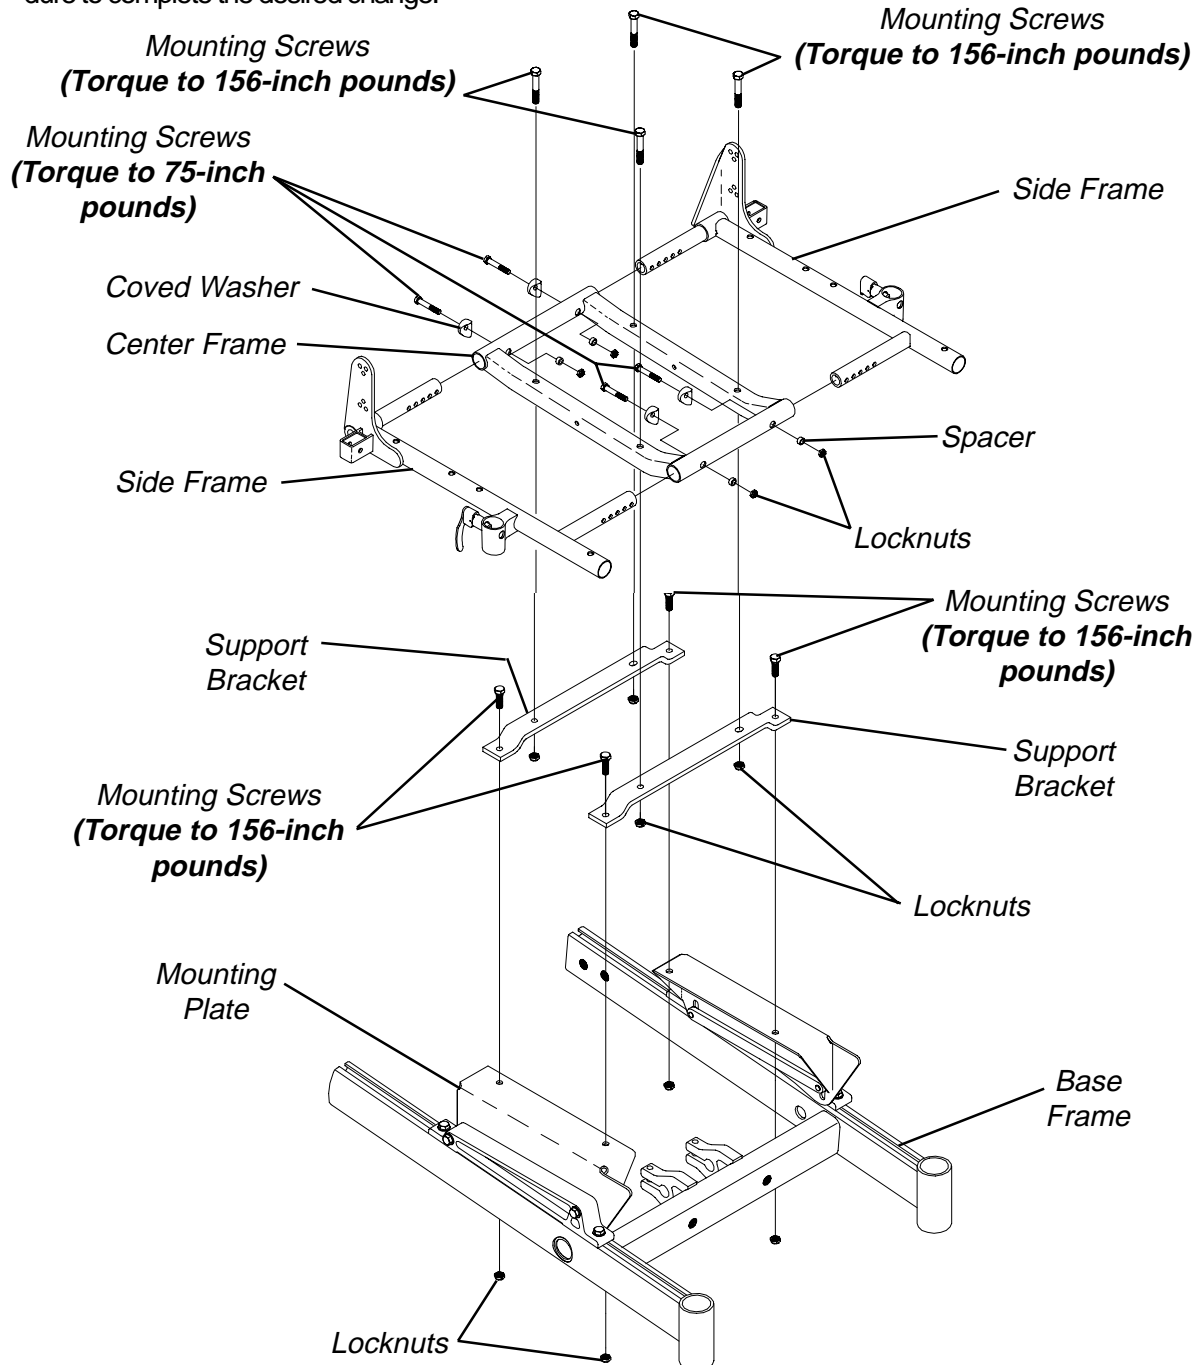

FIGURE 6 - INSTALLING/REMOVING ADJUSTABLE SEAT FRAME SUBASSEMBLY AND/OR COMPONENT REPLACEMENT
INSTALLING/REMOVING ADJUSTABLE SEAT FRAME SUBASSEMBLY AND/OR COMPONENT REPLACEMENT (FIGURE 6)
1. Secure both support brackets to the seat mounting plates with four (4) mounting screws and locknuts as shown in FIGURE 6. Torque mounting screws to 156-inch pounds.
2. Secure the center frame to the support brackets with four (4) mounting screws, locknuts, and spacers. Torque to 156-inch pounds.